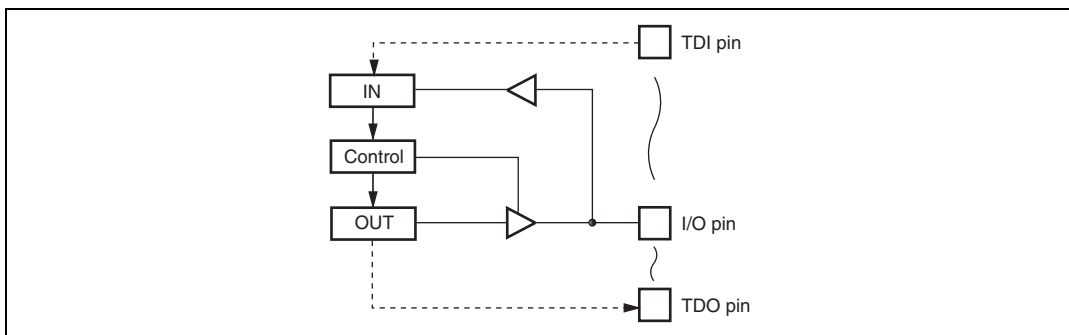

Figure 14.2 Boundary Scan Register Configuration
The I/O pins consists of three bits (IN, Control, OUT), input pins 1 bit (IN), and output pins 1 bit (OUT) of shift registers. The boundary scan test based on the JTAG standard can be performed by using instructions listed in table 14.2. Table 14.4 shows the correspondence between the LSI pins and boundary scan registers. (In table 14.4, Control indicates the high active pin. By specifying Control to high, the pin is driven by OUT.) Figure 14.2 shows the boundary scan register configuration example.